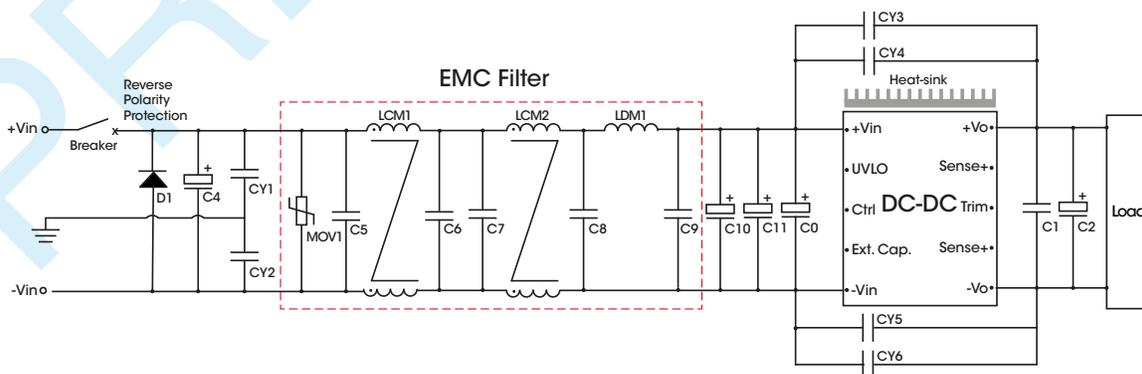

Figure 8.
2. EMC Filter will be provided in a modular form, here is a recommended circuit and parameters, as shown in Fig.8. Users can also build it themselves.
3. The resistance RUVLO sets the undervoltage protection point, for the value of RUVLO, please refer to Fig.8.